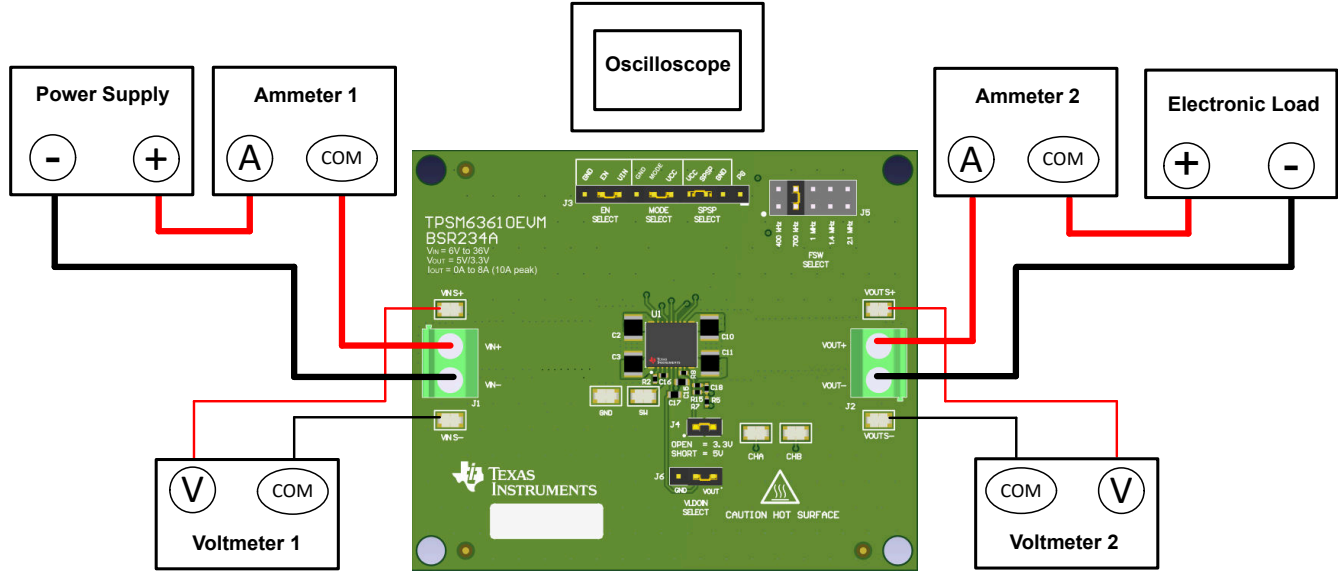

Figure 2-1. EVM Test Setup
Referencing the EVM connections described in Table 2-1, use the recommended test setup in Figure 2-1 to evaluate the TPSM63610. Working at an ESD-protected workstation, make sure that any wrist straps, bootstraps, or mats are connected and referencing the user to earth ground before power is applied to the EVM.
- Prior to connecting the DC input source, set the current limit of the input supply to 0.1-A maximum. Ensure the input source is initially set to 0 V and connected to the VIN+ and VIN– connection points as shown in Figure 2-1.
- Connect an electronic load to the VOUT+ and VOUT– connections as shown in Figure 2-1. Set the load to constant-resistance mode or constant-current mode at 0 A before applying input voltage.